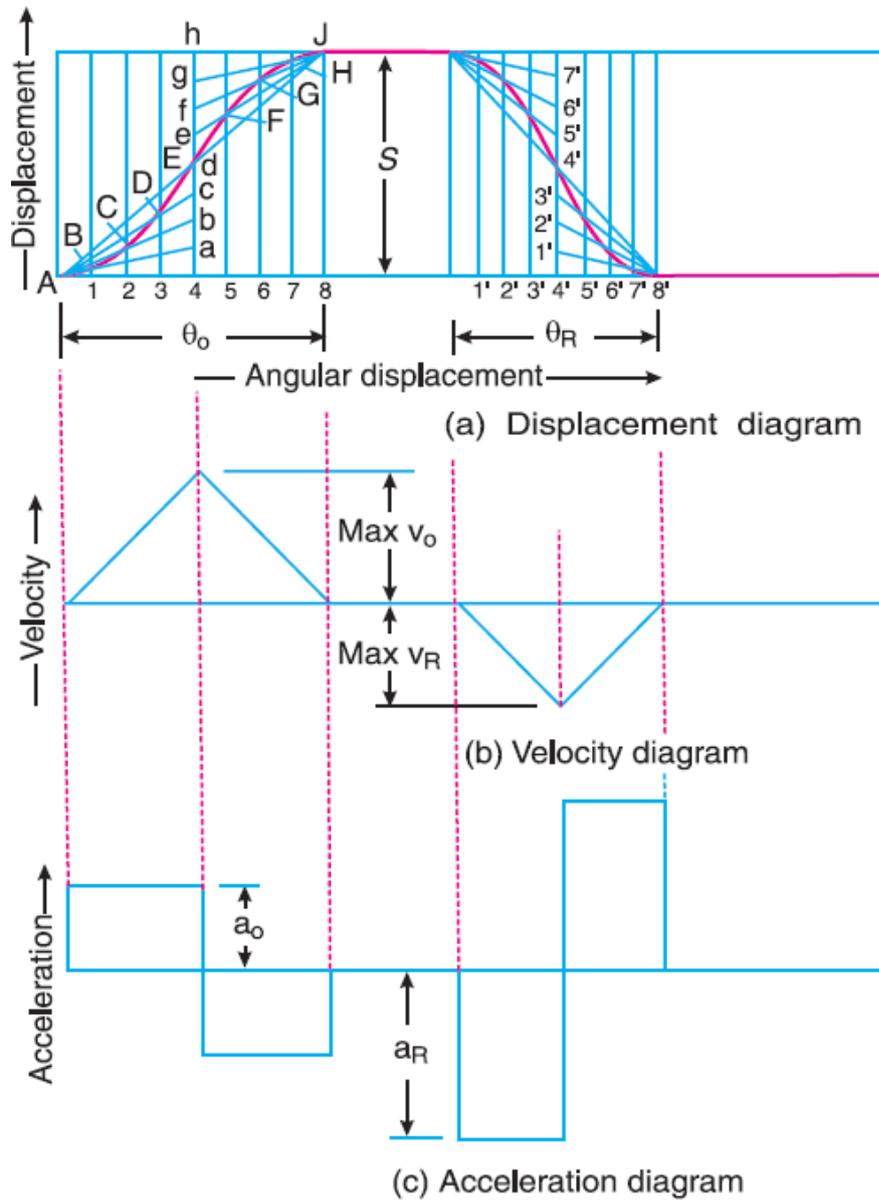

Fig. 4.8 Displacement, Velocity and Acceleration Diagrams when the Follower Moves with Uniform Acceleration and Retardation
The displacement, velocity and acceleration diagrams when the follower moves with uniform acceleration and retardation are shown in Fig. 4.8 (a), (b) and (c) respectively. We see that the displacement diagram consists of a parabolic curve and may be drawn as discussed below:
Divide the angular displacement of the cam during outstroke ( $\Theta$ ) into any even number of equal parts and draw vertical lines through these points as shown in fig.4.8 (a)
Divide the stroke of the follower (S) into the same number of equal even parts. Join Aa to intersect the vertical line through point 1 at B. Similarly, obtain the other points C, D etc. as shown in Fig. 4.8 (a). Now join these points to obtain the parabolic curve for the out stroke of the follower.